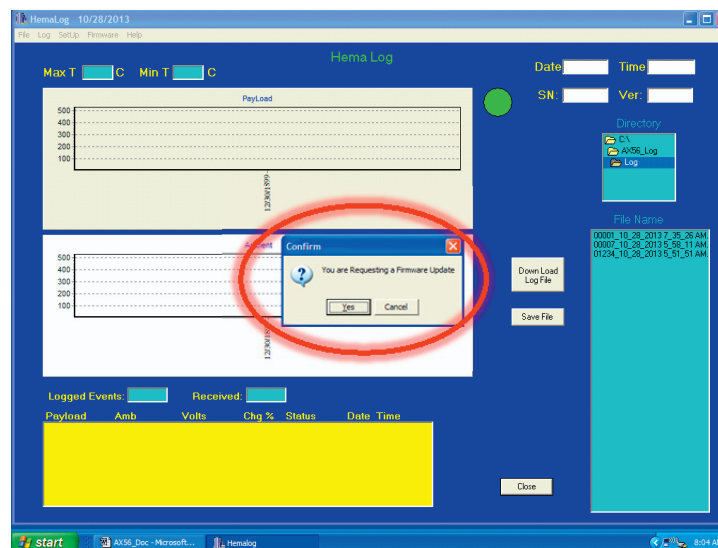

Figure 52. Confirm Firmware Update Dialog Box
1. Acknowledge firmware update (Figure 52) by pressing **Yes** to update the microprocessor's firmware on the control board for the AX56L unit or press **Cancel** if you do not want to update the firmware.